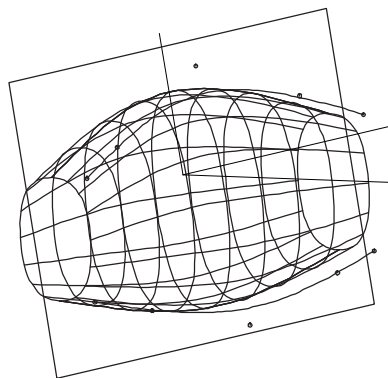

Fig. 14
- 7  (the one with the all blue boundary) > **Mirrored Surface** or **Insert>Surface>Mirrored Surface**. **OK** to accept all defaults. (Fig. 14). This should match TANSURFACE2.ms2.